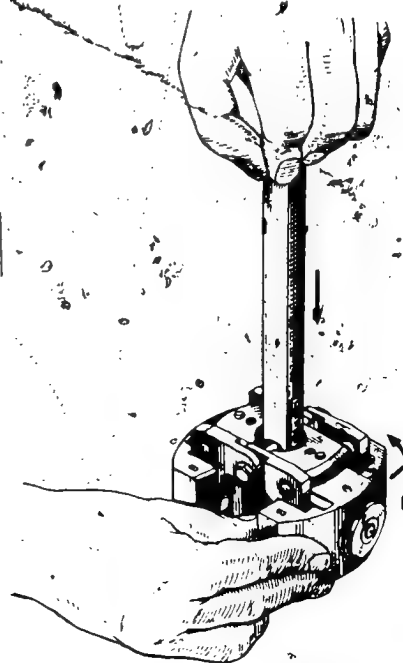

Fig. 7 Testing the play of flyweights
4. Insert coupling bolt (24) temporarily. Place driving end of the flyweight assembly on its flat surface. Exerting pressure on the coupling bolt, compress idling springs until the successively harder stop formed by the maximum speed control springs offers resistance. The idling travel should measure 6 mm for each flyweight. Try turning the flyweights both ways round pivot pin (25) (see Fig. 7). Both weights should fit evenly secured and without play. If a flyweight can be moved, either the inner spring plate (37) or the compensating washer (42) on one side should be replaced for one of different size.